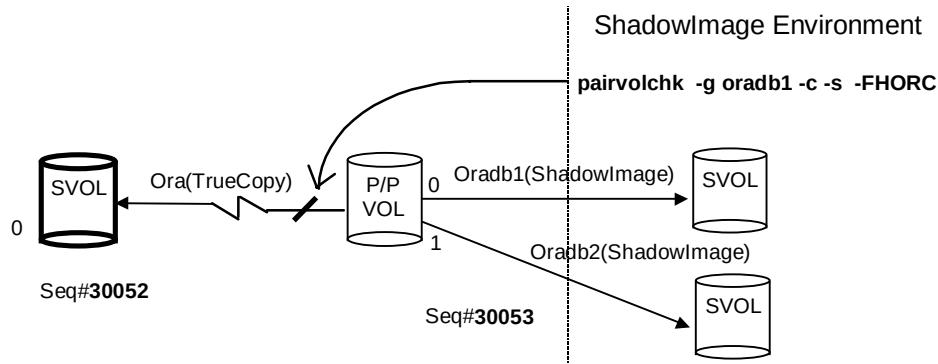
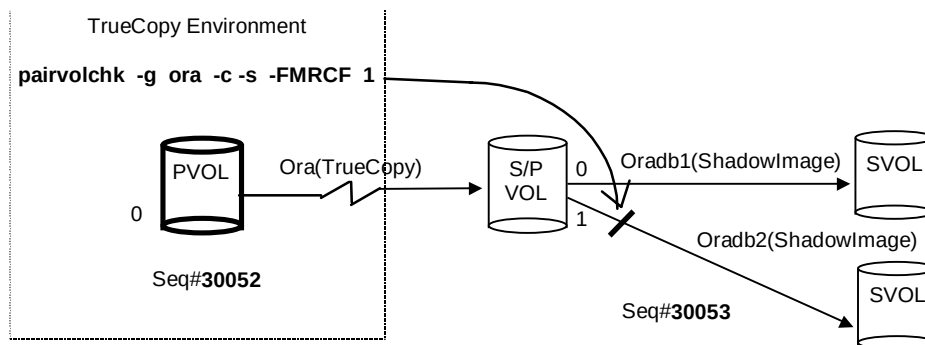

Figure 4.18 Example of -FHORC Option for Pairvolchk
Figure 4.19 Example of -FMRCF Option for Pairvolchk
-ss: Used to acquire the attribute of a volume and the pair status of a volume. If this option is not specified, the volume attribute is reported. -nomsg: Suppresses messages to be displayed when this command is executed. It is used to execute a command from a user program. This option must be specified at the beginning of a command argument. The command execution log is not affected by this option. -FHORC [MU#] or -FCA [MU#]: Forcibly specifies a cascading TrueCopy volume for specified pair logical volumes on ShadowImage environment (see example in Figure 4.18). If no -c option is specified, this option acquires the attributes of a cascading TrueCopy volume on a local host (near site). If the -c option is specified, this option acquires the attributes of a cascading TrueCopy volume on a remote host (far site). -FMRCF [MU#] or -FBC [MU#]: Forcibly specifies a cascading ShadowImage volume for specified pair logical volumes on TrueCopy environment (see example in Figure 4.19). If no -c option is specified, acquires the attributes of a cascading ShadowImage volume on a local host (near site). If the -c option is specified, acquires the attributes of a cascading ShadowImage volume on a remote host (far site). -MINAP: Shows the minimum active paths on specified group in HORC/HORCAsync on PVOL. Note: If RAID F/W will not be supporting the number of active path, then "MINAP" item will not be displayed as follows. <pre>pairvolchk : Volstat is P-VOL.[status = PAIR fence = ASYNC CTGID = 2]</pre> Display example for ShadowImage/Snapshot: <pre># pairvolchk -g oradb pairvolchk : Volstat is P-VOL.[status = PAIR]</pre> Display example for ShadowImage (specified with "-m grp" option): <pre># pairvolchk -g oradb pairvolchk : Volstat is P-VOL.[status = PAIR CTGID = 1]</pre> Display example for TrueCopy: <pre># pairvolchk -g oradb pairvolchk : Volstat is P-VOL.[status = PAIR fence = DATA MINAP = 2]</pre> Display example for TrueCopy Async: <pre># pairvolchk -g oradb pairvolchk : Volstat is P-VOL.[status = PAIR fence = ASYNC CTGID = 2 MINAP = 2]</pre> MINAP displays the following two conditions (status) according to the pair status: PVOL: This shows the minimum in Active Paths on specified group in TrueCopy/TrueCopy Async.  SVOL_ SSUS(SSWS): MINAP shows the result of the suspend operation that indicates whether the remaining data on PVOL was completely passed (synchronized) to SVOL. If MINAP is "one", all data is passed. Otherwise, all data is not passed from PVOL. Note: If RAID F/W will not be supporting the active paths, then the "MINAP" item will not be displayed as follows: pairvolchk : Volstat is P-VOL.[status = PAIR fence = ASYNC CTGID = 2] Display example for Universal Replicator: <pre># pairvolchk -g oradb pairvolchk : Volstat is P-VOL.[status = PAIR fence = ASYNC CTGID = 2 MINAP = 2]</pre> MINAP displays the following two conditions (status) according to the pair status: PVOL or SVOL_PAIR(except SSUS(SSWS)): this shows the minimum in Active Paths on specified group in UR.
Figure 4.18 shows a **pairvolchk** example that acquires the status (PVOL_PSUS) of the intermediate P/Pvol through specified pair group on ShadowImage environment. Figure 4.19 shows a **pairvolchk** example that acquires the status (PVOL_PSUS) of the intermediate S/Pvol (MU#1) through specified pair group on Hitachi TrueCopy environment.